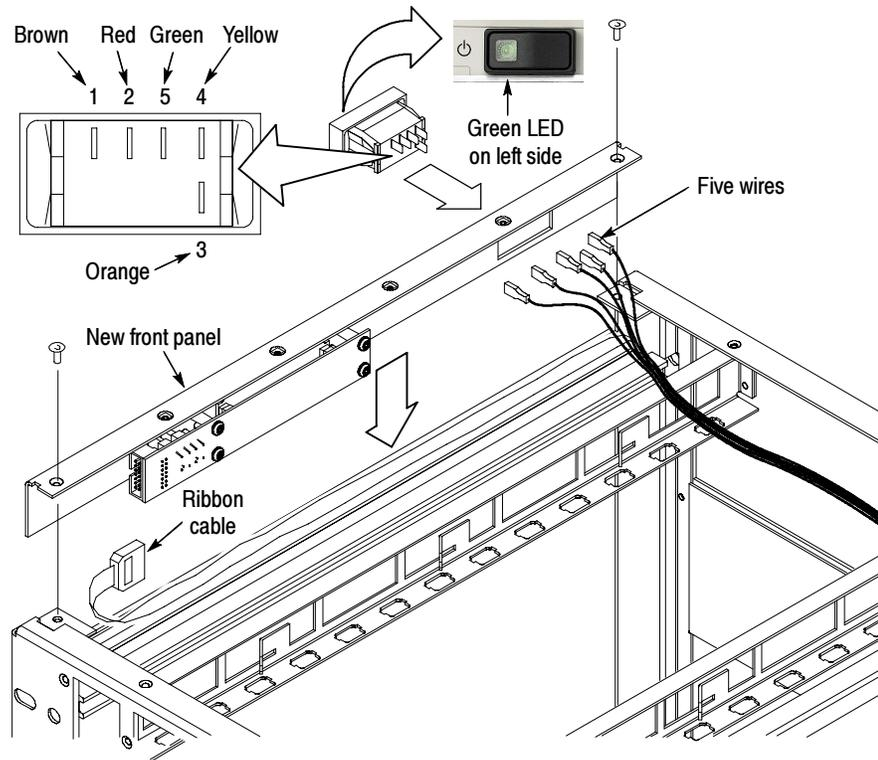

Figure 18: Installing the new front panel
2. Orient the power switch to the front panel so that the four terminals are on top, and the green LED is toward the front-left side. See Figure 18.
4. Connect the wires to the power switch as shown in Figure 18.